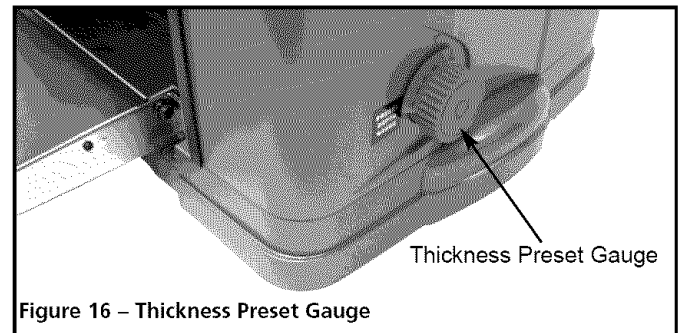

Figure 16 – Thickness Preset Gauge
Refer to Figure 16, page 8.
- Set the preset depth control knob at 1" (see Figure 16).